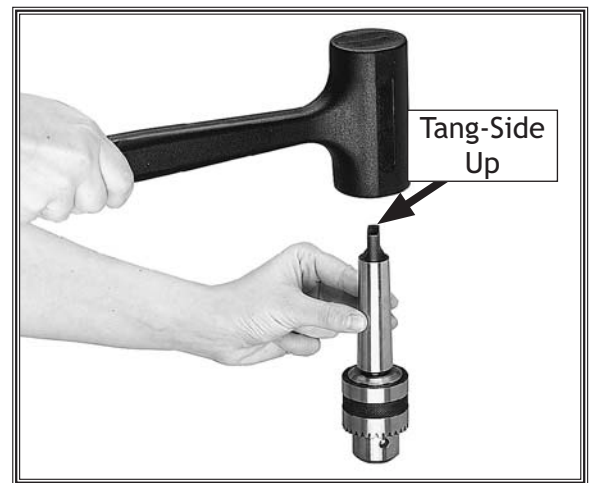

Figure 18. Seating the arbor into the chuck.
3. Place the drill chuck face down on a workbench. The arbor has a short taper and a long taper. Place the short taper into the socket in the back of the drill chuck and tap it with a rubber or wooden mallet, as shown in **Figure 18**. If the chuck fails to remain secure on the arbor, repeat **Steps 1 & 3**.
4. Slide the arbor into the spindle socket while slowly rotating the drill chuck. The socket has a rectangular pocket into which the tang (or flat portion of the arbor shown in **Figure 18**) will fit.